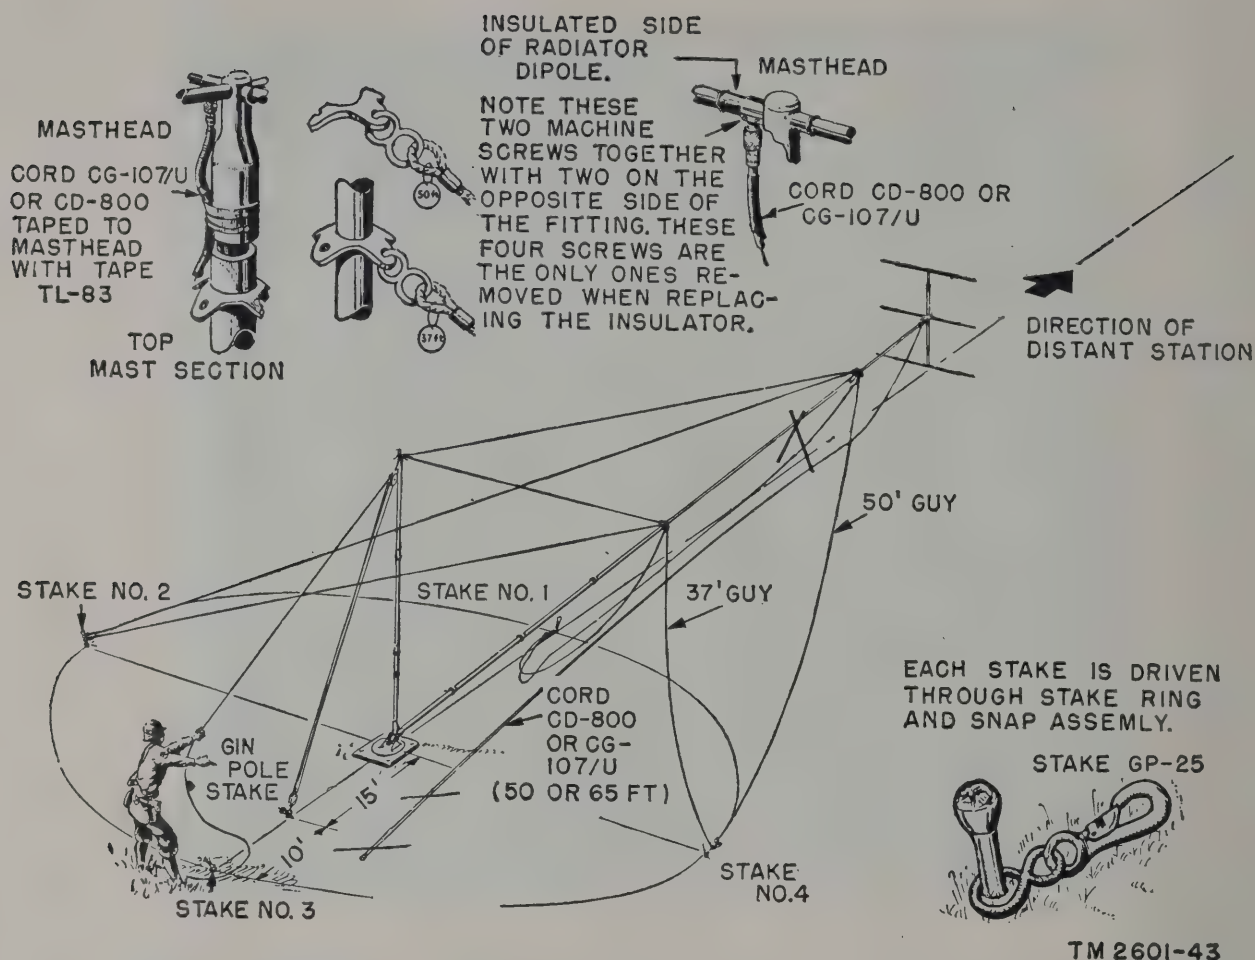

Figure 61. Antenna System AS-19B/TRC-1, assembly and raising.
Plug PL-259-(*) has been screwed firmly home on Socket SO-239, as shown in figure 61, wrap it thoroughly with Tape TL-94 to keep moisture out. Never allow Plugs PL-259-(*) on Cords CD-800 or CG-107/U to lie where moisture can get in them. Always tape them up when not in use.
- (20) Tape Cord CD-800 or CG-107/U to the lower portion of the masthead (fig. 61) so as to place some slack between the taped portion and the masthead receptacle. This is to keep the 50- or 65-foot cable from hanging on the fragile connector.
- (21) Place one man under the outer end of the mast and one in the center. Test the setting of the lifting ropes by pulling lightly on the block and tackle assembly. If high winds are blowing, station another man at the mast base to steady the gin pole. If the mast,
- (6) Carefully unroll one Cord CD-800 or CG-107/U (65-foot) and attach Plug PL-259-(*) on one end to the socket on the antenna element support. When the outer sleeve of Plug PL-259-(*) has been screwed firmly to the mast-head connector as shown in figures 61 and 62, wrap it thoroughly with rubber tape to keep moisture out. Never allow Plugs PL-259-(*) and Cords CD-800 or CG-107/U to lie where moisture can get in them. Always tape them when not in use.